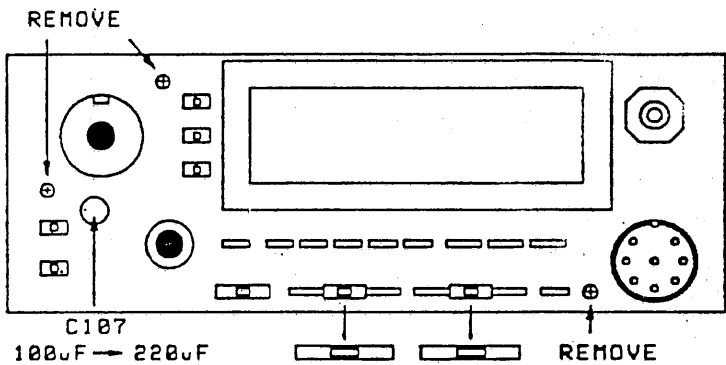

FIGURE 3
6. Remove the two black shades from the Balance and Sub-Squelch controls. **Figure 3**
7. Remove the three brass colored screws from Control board B/3. **Figure 3**
32. Replace C107 with the 220uF electrolytic. C107 is located between the Main and Sub rotary encoders. **Figure 3**